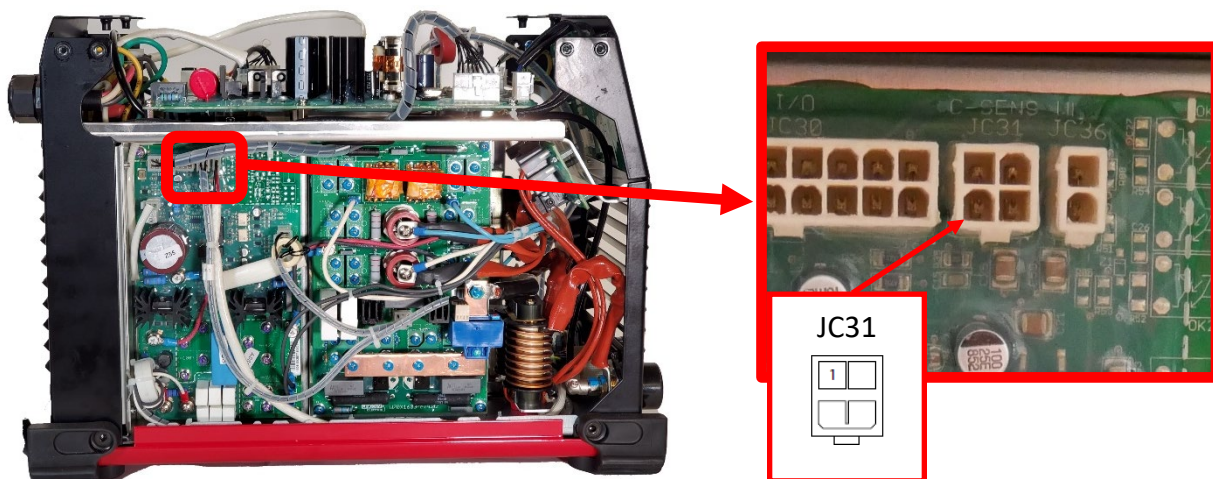

Figure F.3
A.3. Perform the measurements in Test Table 1 below, refer to Figure F.3 for test point locations. **NOTE: DO NOT DISCONNECT WIRES FROM THE OUTPUT CONTROL BOARD.**